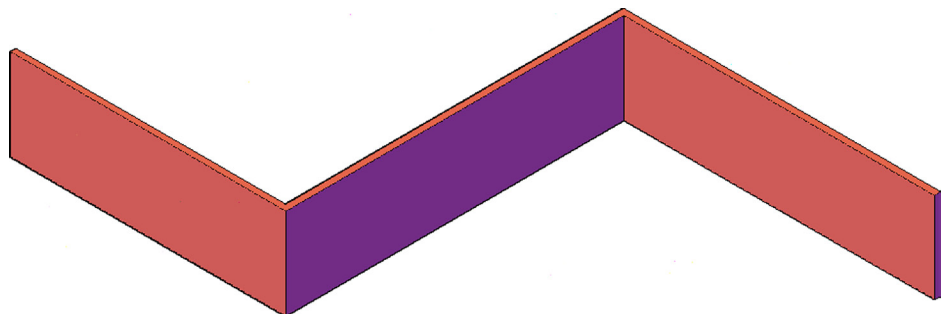

FIGURE 25.1
Step 3. A connected polysolid is drawn every time you click, so do several clicks and press Enter when done, then shade and color the polysolid. You should have something similar to what is shown in Figure 25.1 on your screen.